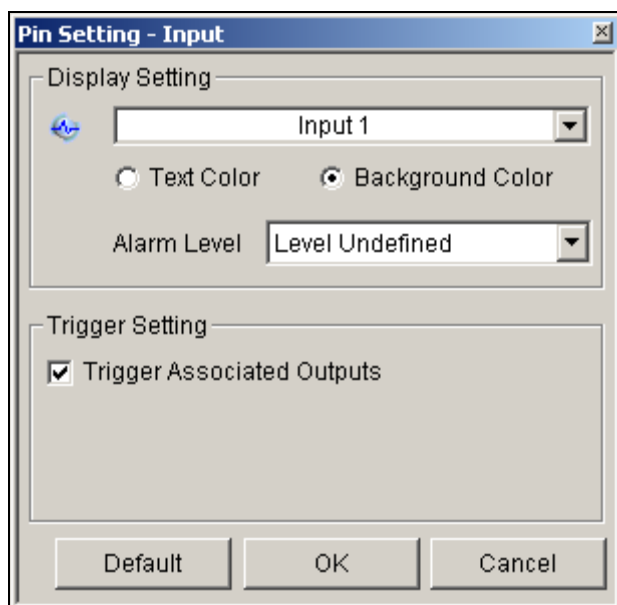

Figure 2-18
- **Use User-defined Text:** Allows you to modify the text of Alarm Level (see Figure 2-18).